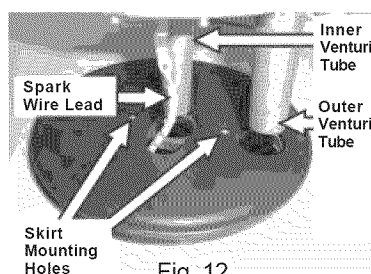

Fig. 12
- Set Triple Ring Burner Head on Burner Head Mounting Skirt by aligning the Triple Ring Burner Head Inner & Outer Venturi tubes with the holes in the Mounting Skirt. Then align the thread locations to the aluminum mounting bracket under the Triple Ring Burner Mounting Skirt (See Fig. 12).